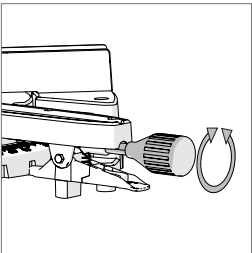

Fig. 30
- Loosen the Mitre Lock Handle **(Fig. 30)** by turning it anti-clockwise.